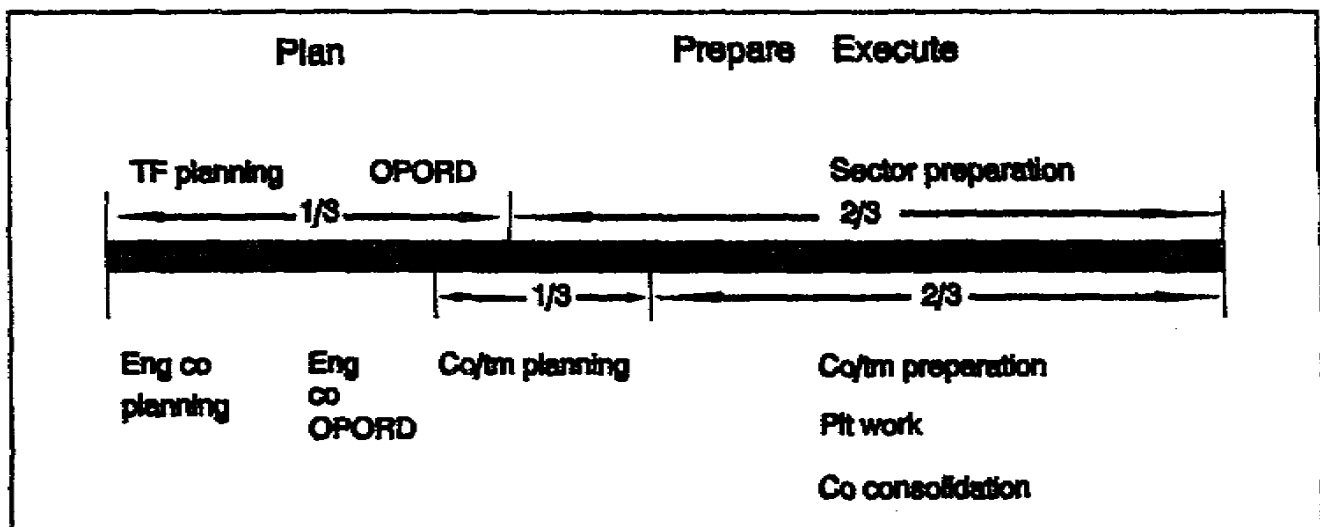

Figure 3-12. Sample time line.
- d. A sample time line is shown in Figure 3-12. Note that one-third of the time is spent on planning and two-thirds on preparation.